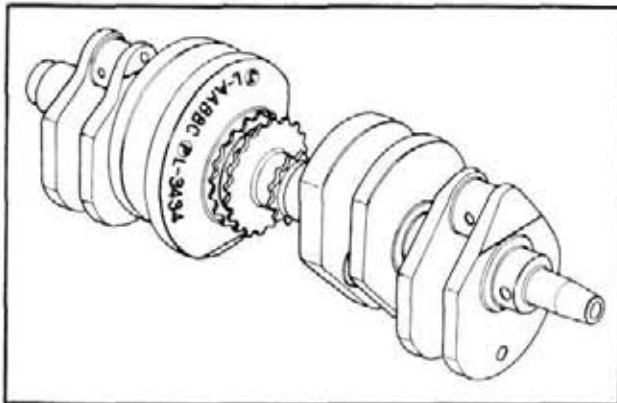

Fig. 3-81
The size marks of crankshaft journals were changed from 1 (I) □ (RO) 八 (HA) and = (NI) to A, B and C. These marks are stamped on the side of the crank weight on the drive sprocket side together with the crankpin size marks. (Fig. 3-81)
- Numbers (3, 4, 5) are stamped on the side surface of the crank weight, this indicates the crank pin size. (Fig. 3-81)